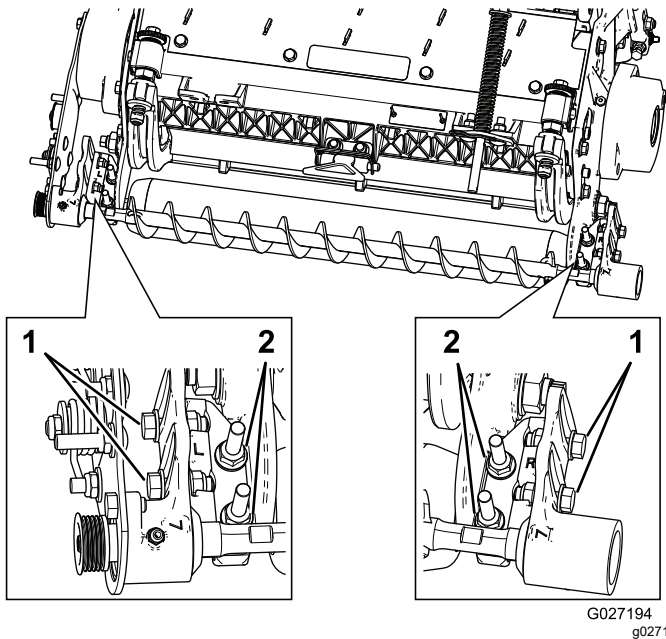

Figure 13
- A. Loosen the 2 flange locknuts securing the roller-brush mounting bracket to the cutting-unit side plate (Figure 13).
- B. Rotate the roller-brush bearing housing until the brush plate is parallel to the cutting-unit side plate (Figure 13).
- C. Tighten the 2 flange locknuts securing the roller-brush mounting bracket to the cutting-unit side plate (Figure 13).
1. Loosen the 2 bolts securing each roller-brush bearing housing to the roller-brush mounting bracket (Figure 13).